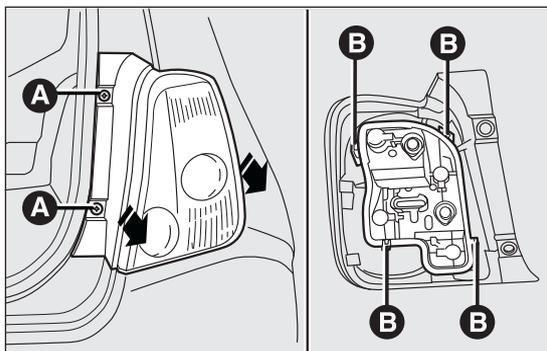

fig. 117
- unscrew the two fastening screws A fig. 117 and extract the light cluster axially without rotating it;
- remove the bulb holder from its housing releasing it from the locking tabs B fig. 117;